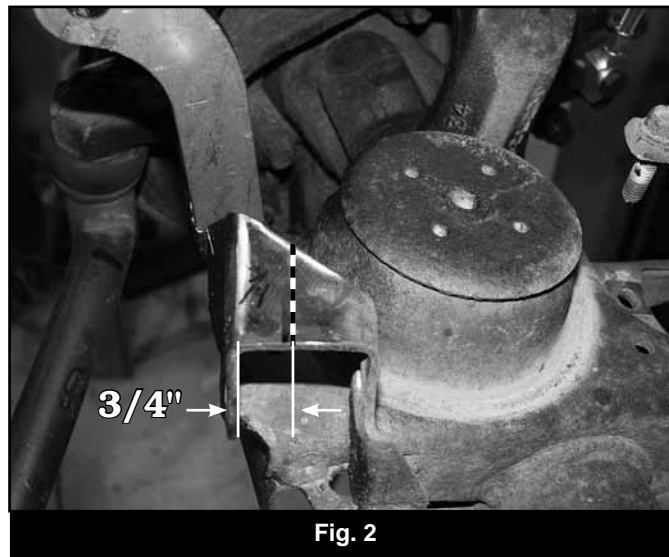

Fig. 2
6. Locate the top of the original stabilizer mount on the passenger's side of the axle. Mark from the front edge of the bracket toward the rear  $\frac{3}{4}$ " and mark on the top of the bracket (Fig 2). Make a line along the top of the bracket, parallel to the front face at the  $\frac{3}{4}$ " marked distance. This will be a reference line for installing the new stabilizer mount/support gusset.